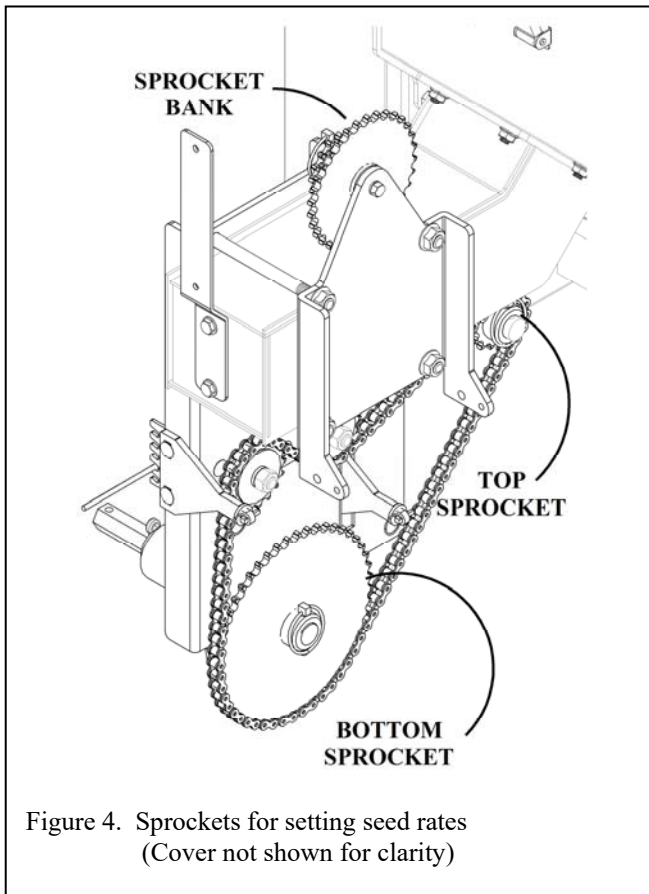

Figure 4. Sprockets for setting seed rates
- Arrange the black sprockets as required, as noted in Fig 4.